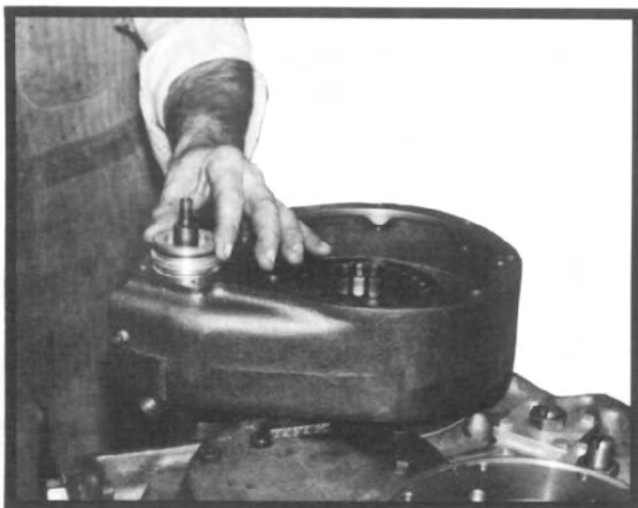

Fig. 28
5. Install O-rings in adapter tube and insert adapter tube into declutch housing (see fig. 28).